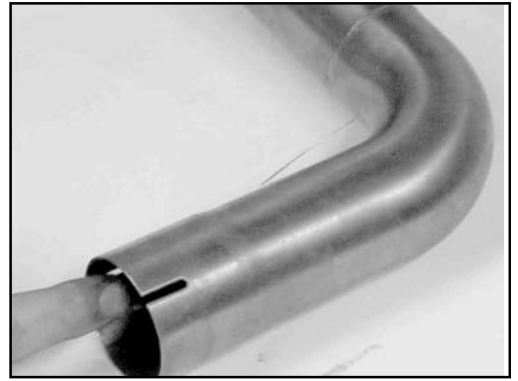

Figure 11
1. Apply a thin film of Sealant to the inside of the Head Pipes, at the end with the slits. **Figure 11.**